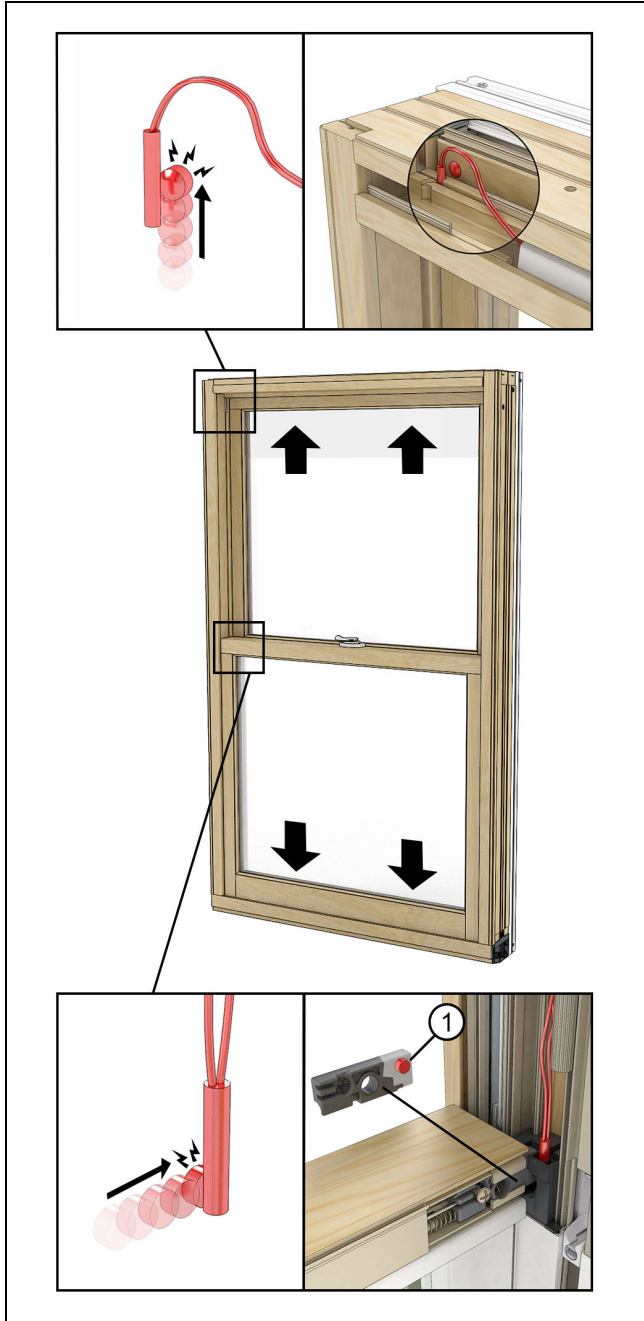

Figure 13
1. Close both sash fully. This will activate the auto lock at the check rail. At this point, the magnets will align with the sensors and signal a closed and locked status for both top and bottom sash. See Figure 13.